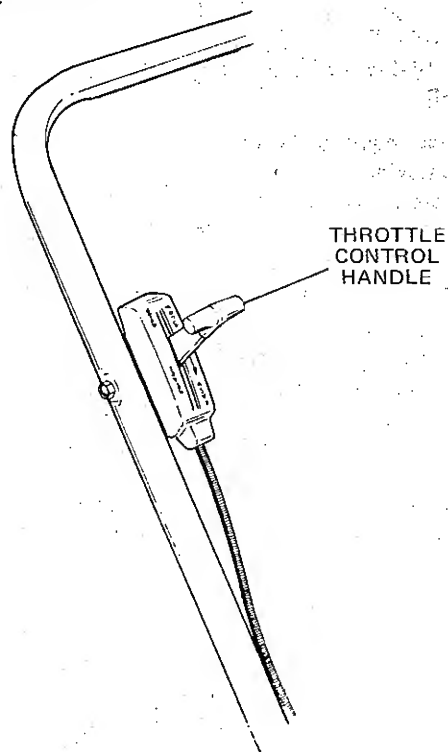

Figure 4
1. Check throttle control adjustment. Place throttle control handle (Figure 4) rearward to STOP position and forward to START position.
2. Set controls. Move the throttle control handle forward to the **START** position (Figure 4) and replace the spark plug wire. Be sure spark plug contacts are clean.
- c. If engine does not start, it may be flooded. Move throttle control handle (Figure 4) rearward to **STOP** position, and pull starter six times. Move throttle control handle forward to **START** position again and start engine. If engine still does not start, refer to Adjustments section of this manual for carburetor needle valve adjustment.
1. **Engine speed.** The throttle control handle (Figure 4) may be set anywhere in the mow range to suit varying mowing conditions. For mowing, average engine speed is from three-quarters to full. For cleaning leaves or bagging litter, run at full speed for greater blowing action.
Allow engine to operate at slow speed a few minutes before completely stopping. Move the throttle control handle (Figure 4) rearward to the **STOP** position. Remove spark plug wire from spark plug.